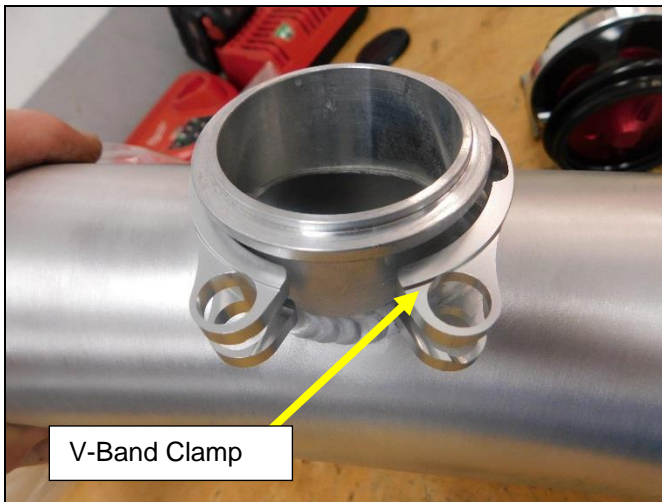

Figure 26
1. Remove the V-band clamp from the blow off valve and install it on to the intake pipe. **Fig.26**